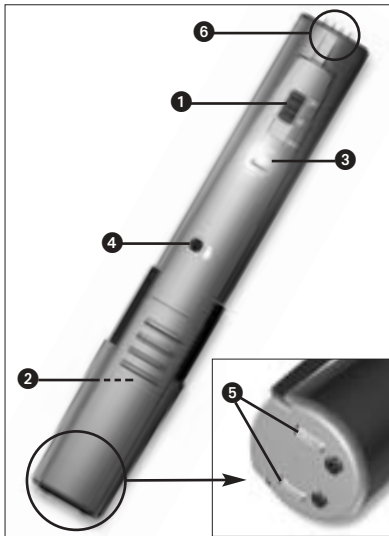

Fig. 1: TM 40 controls.
2.5 Controls (Refer to fig. 1)